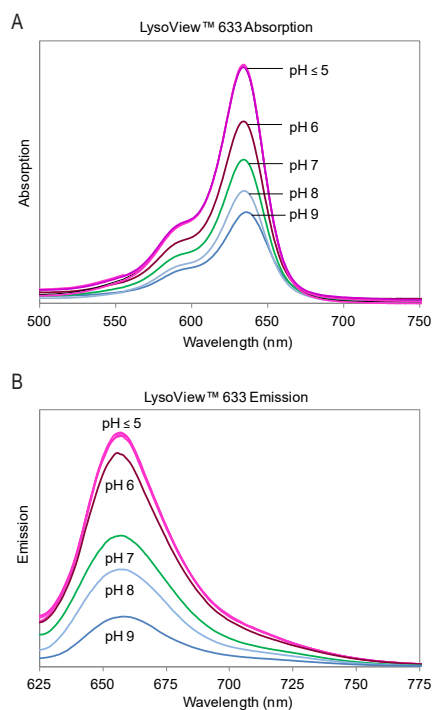

Figure 3. LysoView™ 633 normalized absorption (A) and emission (B) at varying pH.
- LysoView™ 633: Far-red dye with pH-dependent fluorescence (Fig. 3).